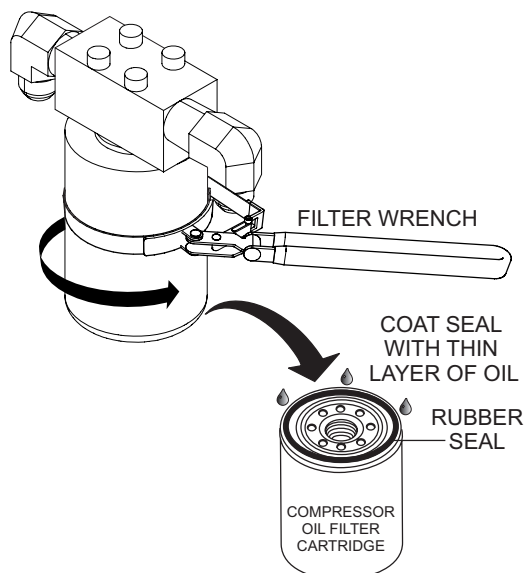

Figure 64. Compressor Oil Filter
1. Using a filter wrench, turn the oil filter cartridge (Figure 64) counterclockwise to remove.
3. Coat the rubber seal on the new oil filter with clean compressor oil (Figure 64).